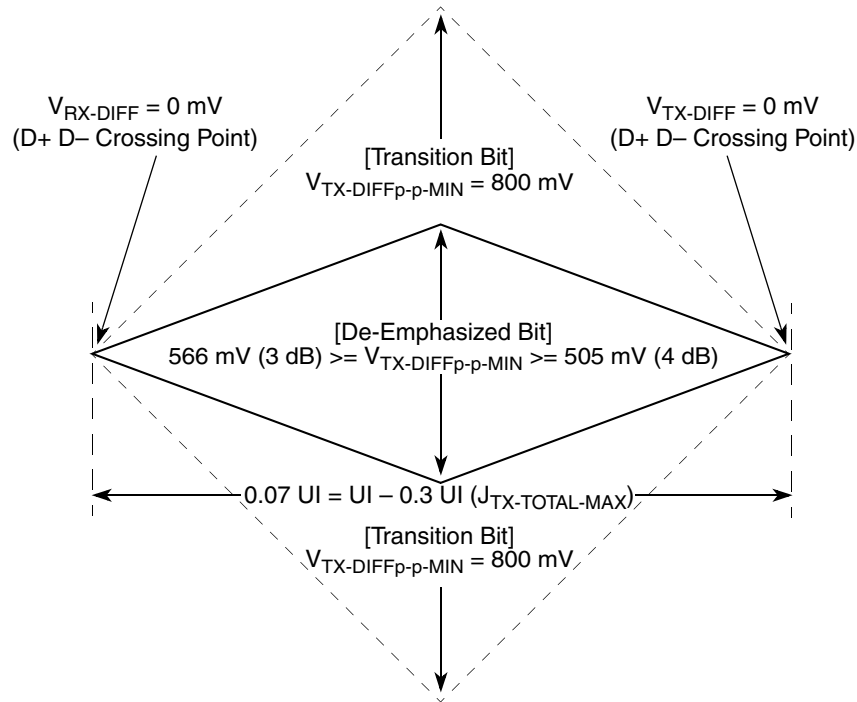
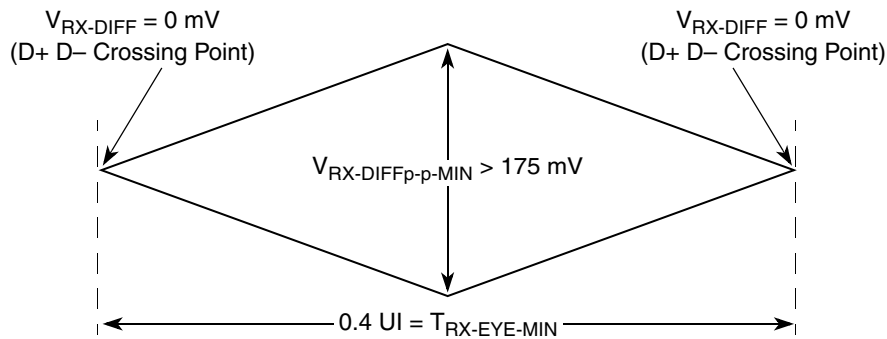
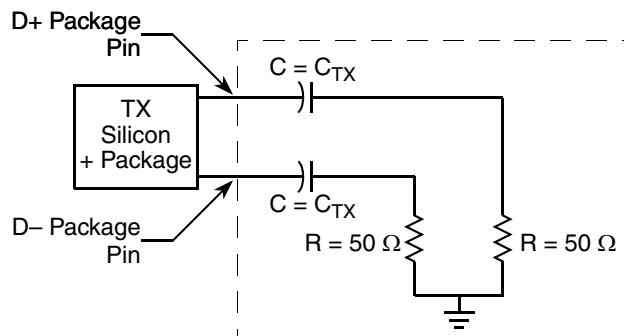

Figure 52. Minimum Transmitter Timing and Voltage Output Compliance Specifications
Figure 53. Minimum Receiver Eye Timing and Voltage Compliance Specification
Figure 54. Compliance Test/Measurement Load
2. Specified at the measurement point into a timing and voltage compliance test load as shown in Figure 54 and measured over any 250 consecutive TX UIs. (Also refer to the transmitter compliance eye diagram shown in Figure 52.)
4. The transmitter input impedance shall result in a differential return loss greater than or equal to 12 dB and a common mode return loss greater than or equal to 6 dB over a frequency range of 50 MHz to 1.25 GHz. This input impedance requirement applies to all valid input levels. The reference impedance for return loss measurements is 50 Ω to ground for both the D+ and D- line (that is, as measured by a vector network analyzer with 50- Ω probes—see Figure 54.) Note that the series capacitors C_{TX} is optional for the return loss measurement.
5. Measured between 20%–80% at transmitter package pins into a test load as shown in Figure 54 for both $V_{\text{TX-D+}}$ and $V_{\text{TX-D-}}$.
The TX eye diagram in Figure 52 is specified using the passive compliance/test measurement load (see Figure 54) in place of any real PCI Express interconnect +RX component.
2. Specified at the measurement point and measured over any 250 consecutive UIs. The test load in Figure 54 should be used as the RX device when taking measurements (also refer to the receiver compliance eye diagram shown in Figure 53). If the clocks to the RX and TX are not derived from the same reference clock, the TX UI recovered from 3500 consecutive UI must be used as a reference for the eye diagram.
4. The receiver input impedance shall result in a differential return loss greater than or equal to 15 dB with the D+ line biased to 300 mV and the D– line biased to –300 mV and a common mode return loss greater than or equal to 6 dB (no bias required) over a frequency range of 50 MHz to 1.25 GHz. This input impedance requirement applies to all valid input levels. The reference impedance for return loss measurements for is 50 Ω to ground for both the D+ and D– line (that is, as measured by a vector network analyzer with 50-Ω probes, see Figure 54). Note that the series capacitors C_{TX} is optional for the return loss measurement.
The RX eye diagram in Figure 53 is specified using the passive compliance/test measurement load (see Figure 54) in place of any real PCI Express RX component.
In general, the minimum receiver eye diagram measured with the compliance/test measurement load (see Figure 54) will be larger than the minimum receiver eye diagram measured over a range of systems at the input receiver of any real PCI Express component. The degraded eye diagram at the input receiver is due to traces internal to the package as well as silicon parasitic characteristics which cause the real PCI Express component to vary in impedance from the compliance/test measurement load. The input receiver eye diagram is implementation specific and is not specified. RX component designer should provide additional margin to adequately compensate for the degraded minimum receiver eye diagram (shown in Figure 53) expected at the input receiver based on some adequate combination of system simulations and the return loss measured looking into the RX package and silicon. The RX eye diagram must be aligned in time using the jitter median to locate the center of the eye diagram.
The reference impedance for return loss measurements is 50 Ω to ground for both the D+ and D– line (that is, as measured by a vector network analyzer with 50-Ω probes, see Figure 53). Note that the series capacitors, CTX, are optional for the return loss measurement.
The AC timing and voltage parameters must be verified at the measurement point, as specified within 0.2 inches of the package pins, into a test/measurement load shown in Figure 54.